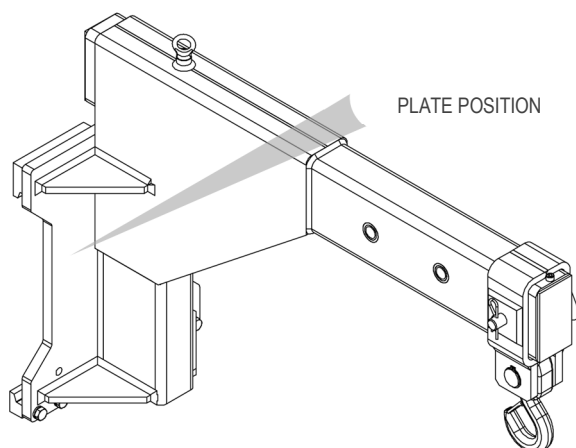
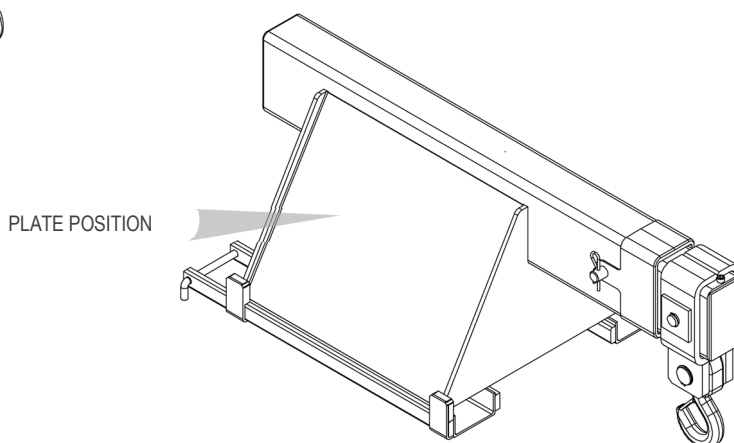

Figure 1
Figure 2
All the A.T.I.B. equipment - "CRANE JIB TYPE 980 | CRANE JIB WITH EXTENDING ARM TYPE 975 | FORK MOUNTED CRANE JIB WITH EXTENDING ARM TYPE 976" is identified by means of an adhesive plate (see *Table 1*) positioned on the equipment (see *Figure 1* and *Figure 2*). The position of the identification plate may vary depending on the equipment. Always refer to the serial number.
4. For handling, use belts or chains appropriately sized with regard to the weight of the equipment indicated on the plate (see *Figure 1* and *Table 1* on page 7).